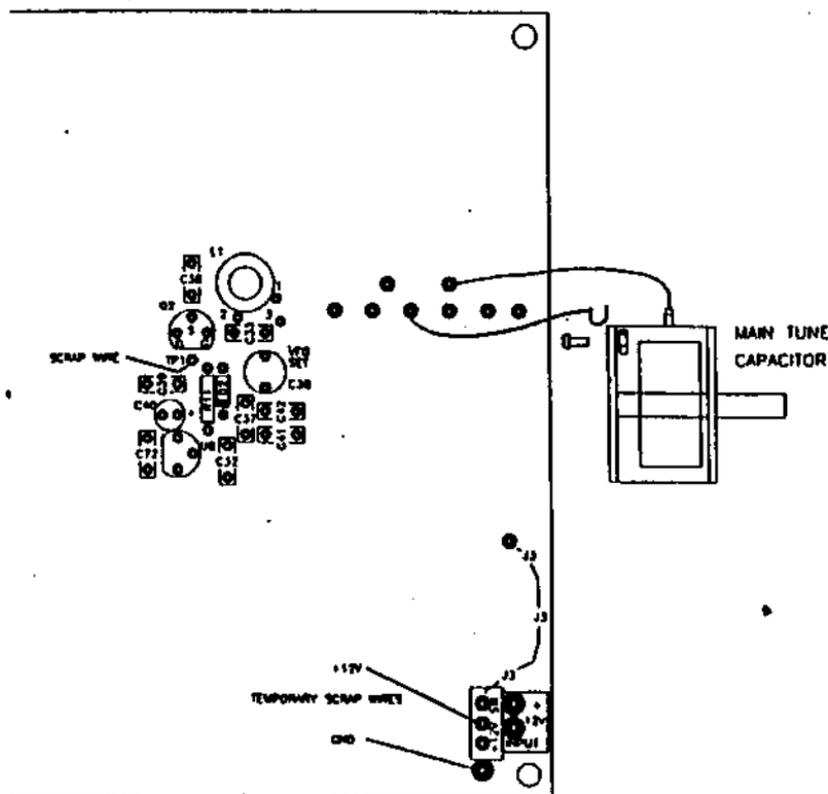

Fig. 6
- C35 Main tuning capacitor. Cut two 2" lengths of hookup wire and remove 1/4" of insulation from each end. connect the frame of the capacitor to one of the 6 ground pads, and the stator part of the cap to one of two pads as indicated in Fig. 6.